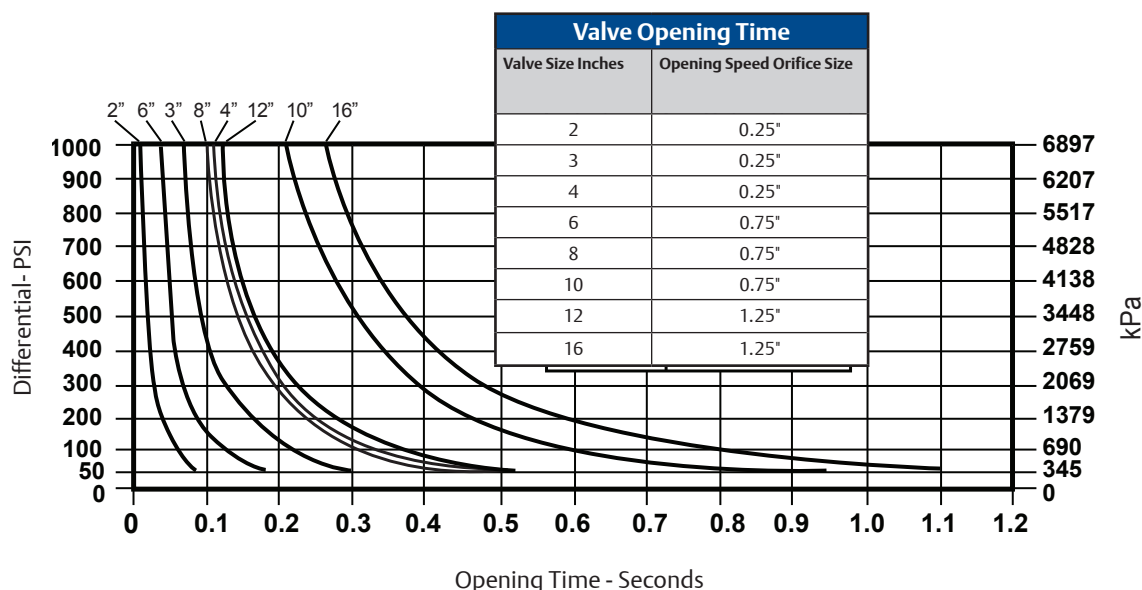

Figure 2 – Typical Valve Opening Time
The opening speed of the valve is virtually unrestricted. Closing speed is standard at three (3) seconds from a full open position, based on gas pressure being 25 psi (1,724 kPa) above line pressure. The fastest closure is limited to 0.5 seconds at 1,500 psi (10,342 kPa) differential pressure to protect the piston and seat ring. For closure speeds longer than three (3) seconds, the orifice size can be changed to match customer requirements. It should be noted that the calculated closing speeds are a function of the viscosity of the oil in the reservoir. Typical valve opening times are illustrated in Figure 2.